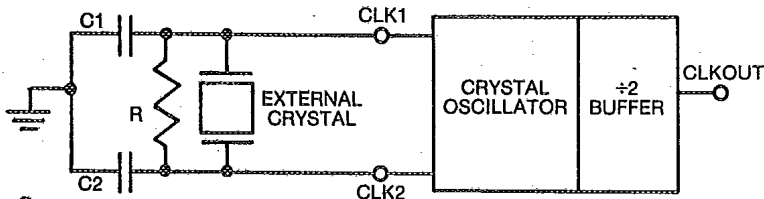

Figure 6 Internal-crystal-oscillator/external-crystal circuit diagram.
Figure 6 shows a Pierce IC oscillator with a $\div 2$ buffered output. Recommended feedback resistor (R) is $5k\Omega$ to $10k\Omega$ for crystal frequencies of 1 MHz to 40 MHz respectively. Capacitors C1 and C2 are 15 pF or may vary depending on type and make of the crystal. Increasing the value of C2 can adjust the duty cycle (ideally 50/50); however, too much capacitance will cause startup problems.